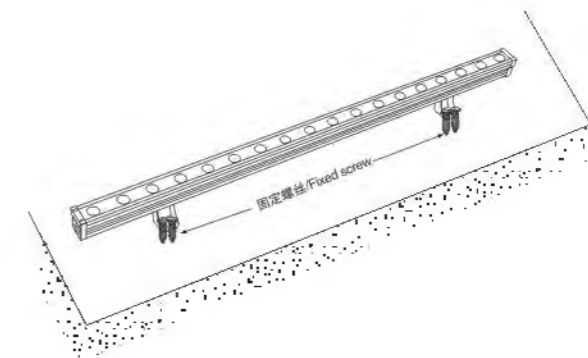

图 2/Picture 2
- 2、将灯体安装到固定件上, 如图2所示, 并固定牢固。
2. Install the lamp body to fixed pieces, as shown in figure 2, and fixed tightly.